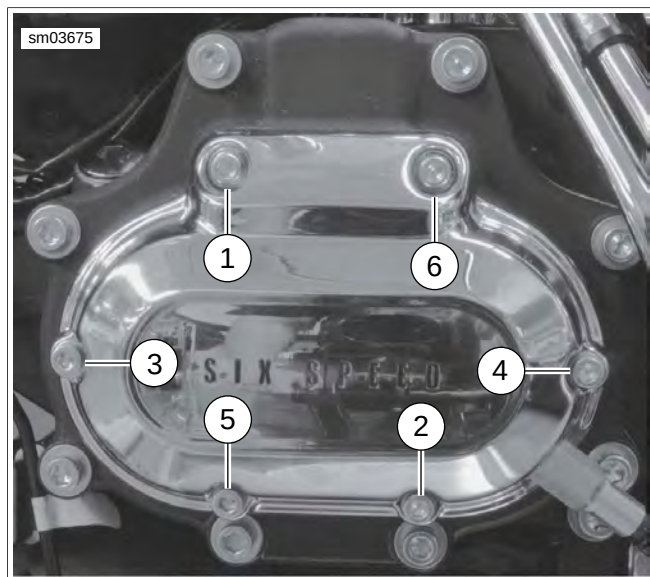

Figure 6-4. Cover Screws
4. See Figure 6-4. Remove the six screws that hold the clutch release cover in place. Remove the clutch release cover and discard the gasket.
See Figure 6-4. Clutch release cover screws in positions (1) and (6) are shorter than the others.
7. See Figure 6-4. Install clutch release cover. Tighten all six screws to 132-156 **in-lbs** (14.9-17.6 Nm) in sequence shown.